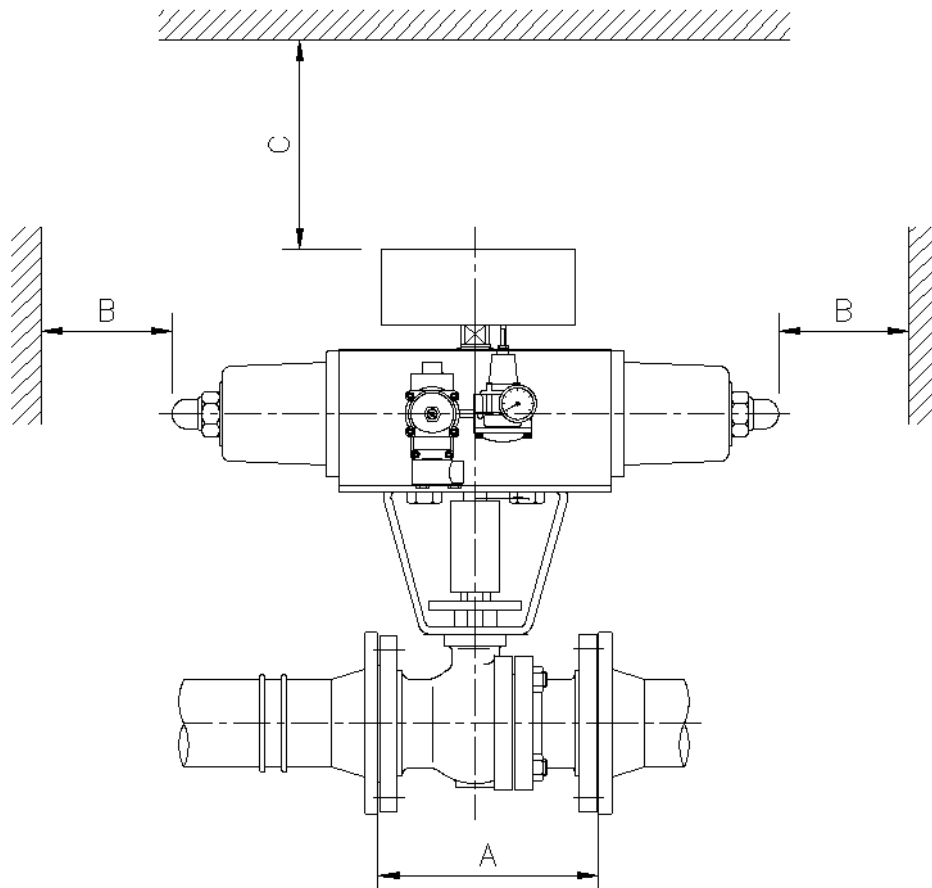

Fig 3.4 Space required for control valve installation
G) A minimum space is required for maintenance of the valve installation area. (See Fig 3.4) In addition, a space for manual operation is required if a manual hand wheel has been installed.